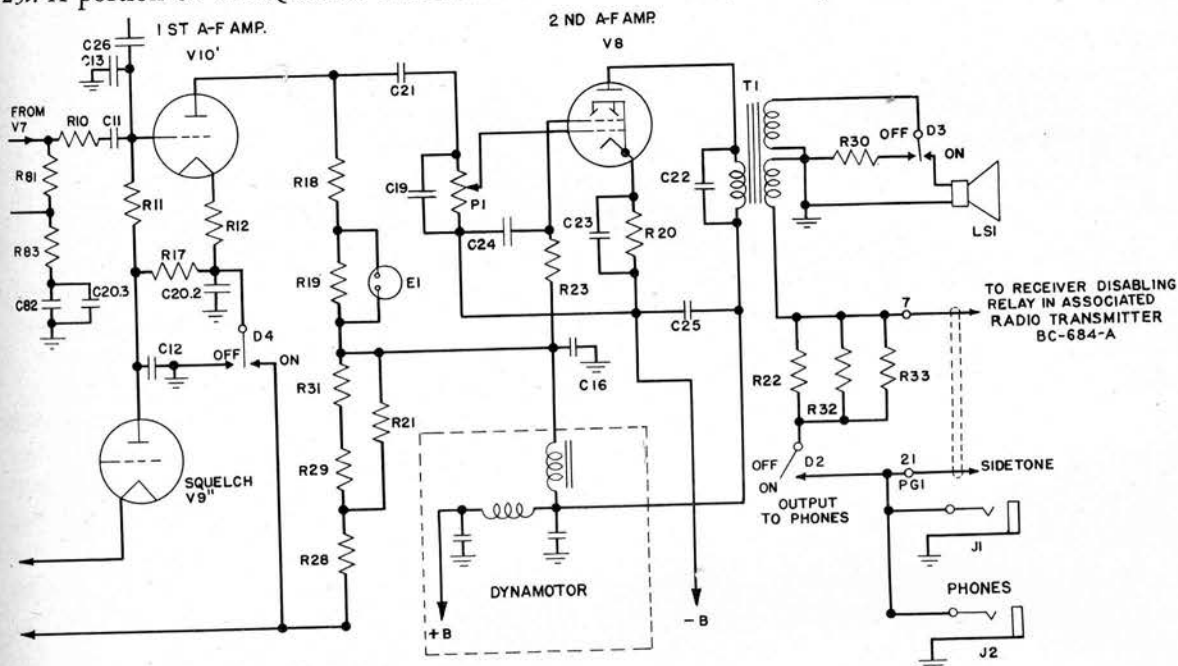

Fig. 28. Radio Receiver BC-683-A: Functional Diagram of A-f Amplifier
*g. A-f Amplifier.* A functional diagram of the audio-frequency amplifier is shown in Fig. 28.